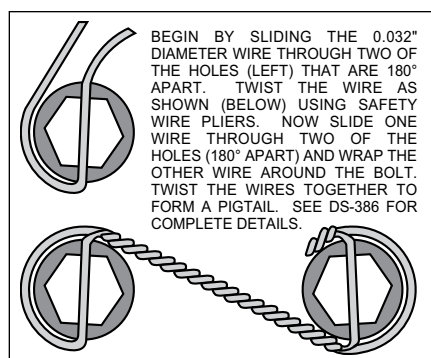

Figure 3. Safety Wire Diagram
- With the larger I.D. side of the rotor (5) facing away from the hat (6), bolt rotor (5) to hat (6) through the backside of the rotor using washers (7) and bolts (8). Apply red *Loctite*® 271 to the bolt threads and torque to 155 in-lb using a criss-cross pattern. For an added measure of security, the bolts may be safety wired using standard 0.032 inch diameter stainless steel safety wire as shown in Figure 3. Please refer to Wilwood's data sheet DS-386 (available at www.wilwood.com/Pdf/DataSheets/ds386.pdf) for complete safety wire installation instructions.